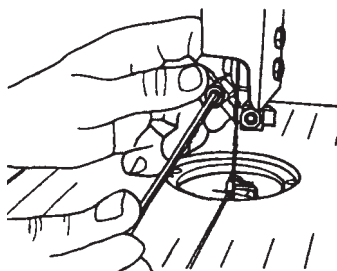

Figure A-28
2. With the locking screws (76,100) loose, push each of the four guide blocks—two in the upper blade guide and two in the lower blade guide—toward the blade until they just barely clear it on each side. This clearance should be about .003-.005". Figs. A-28-A-31 show adjusting the four guide blocks.
An easy way to gauge the distance of the blades from the blocks is with tape. Put a piece of cellophane tape on each side of the blade, then push the blocks in until they touch the tape. Tighten the locking screws and remove the tape. Again, refer to Figs. A-28-A-31. Many woodworkers use notebook paper or a crisp dollar bill to